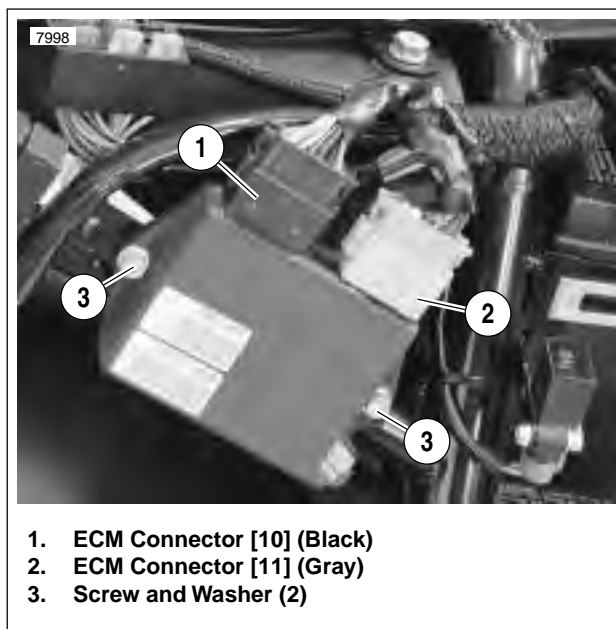

Figure 4-67. Electronic Control Module (ECM)
2. See Figure 4-67. Unplug ECM connectors [10] and [11].
3. Remove two screws and washers (3) to detach ECM from frame.
1. See Figure 4-67. Align ECM with frame mounting holes. Install using two screws and washers (3).